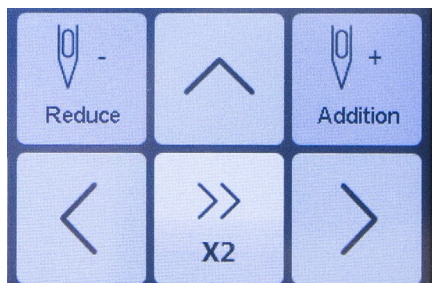

Figure 99
2. To rewind by stitch count, click on the Reduce icon. To fast-forward by stitch count, click on the Addition icon. **See Figure 99.**